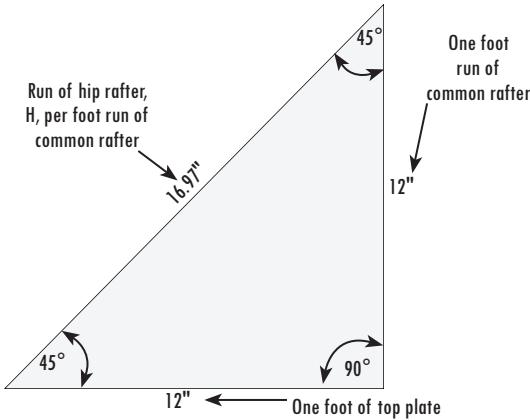
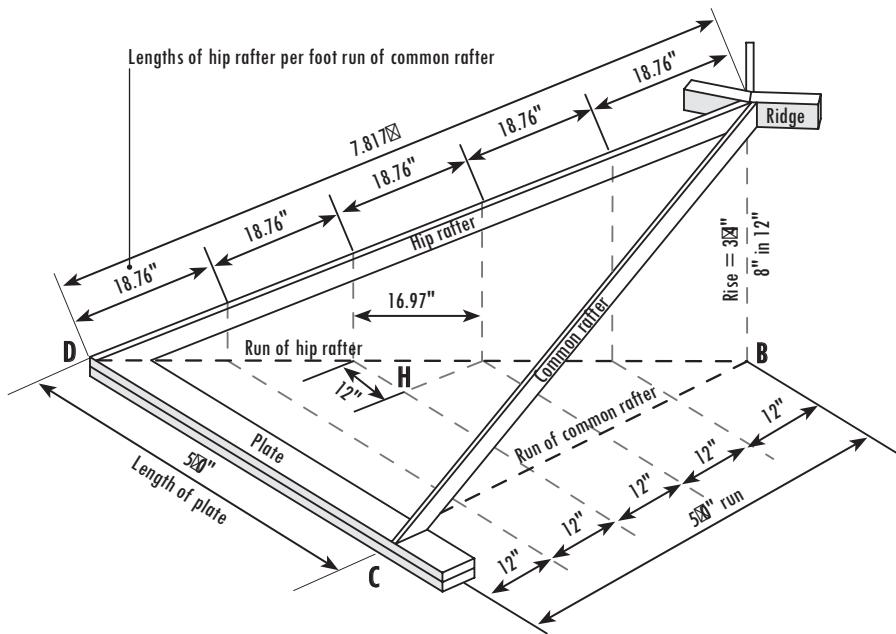
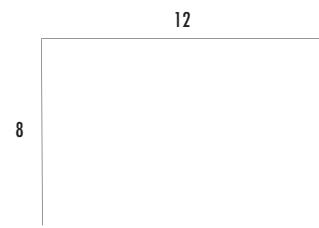
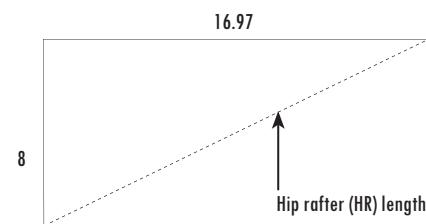

Figure 7-33
Figure 7-34
Figure 7-35
Figure 7-36
This calculation is illustrated in Figure 7-33. You can find this same triangle within the larger illustration of triangle (BCD) in Figure 7-34. The run of the hip (or valley) rafter, H, is part of side BD (the hypotenuse) of that triangle.
The roof pitch (shown on the right side of the illustration) for the common rafters in Figure 7-34 is 8/12 (Figure 7-35). So, the length of the hip rafter per foot run of the common rafter would be 8/16.97 (Figure 7-36). We can use the following formula to find the pitch factor (length per foot of run on common rafters in inches) for calculating the length of the hip (or valley) rafters (HR).
Roof pitch factors from Figure 7-34